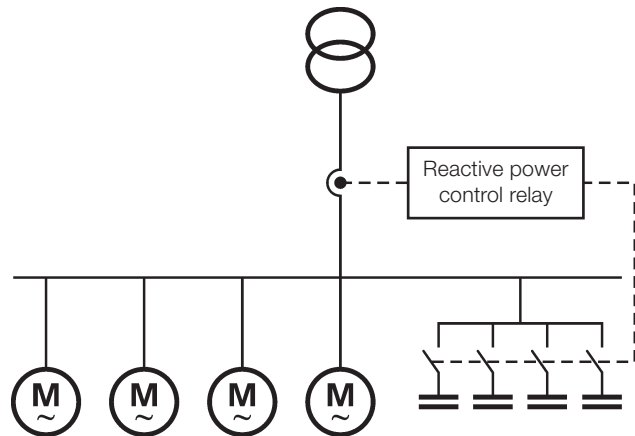

Fig. 1: Correct Current transformer installed to register load current plus capacitor current.
Note: The current transformer must be installed in any one of the three phases so that the entire current to the loads requiring power factor correction plus the capacitor current flow through it (refer to Figs. 1–3). Terminal P1 (K) is connected to the power supply side, terminal P2 (L) to the load side.